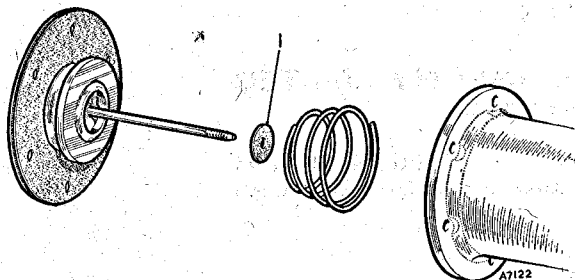

Fig. 5. Fitting the diaphragm to the coil housing. Note the impact washer (1)
6. Place the armature spring into the coil housing with its larger diameter towards the coil (Fig. 5).